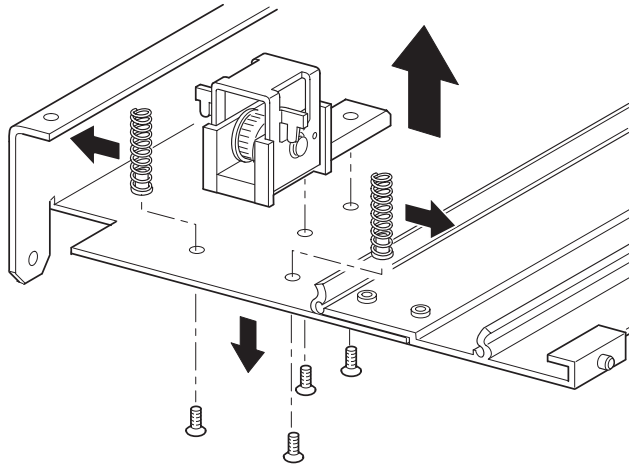

Figure 74. Tensioner ramp/idler pulley
7. Remove the belt tensioner components as shown in Figure 74 on page 79.
- 11. Attach the tensioner ramp/idler pulley components to the cartridge elevator extension in the same manner as shown in Figure 74 on page 79.